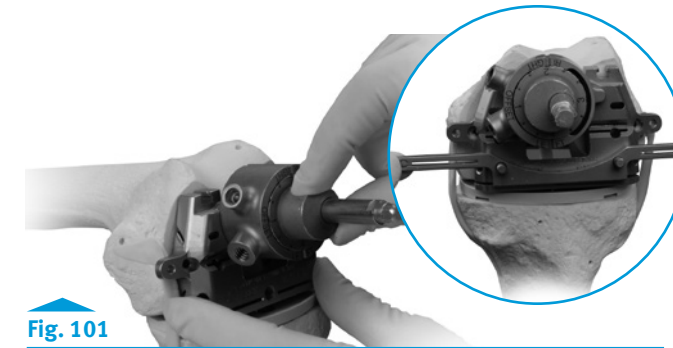

Fig. 101
- Rotate the bushing within the adapter until an optimal position is determined (**Fig. 101**).
- Insert the tabs of the Revision Rotational Alignment Guide into the posterior cutting slot, and rotate the guide until the handles are aligned with the transepicondylar axis (**Fig. 101**).